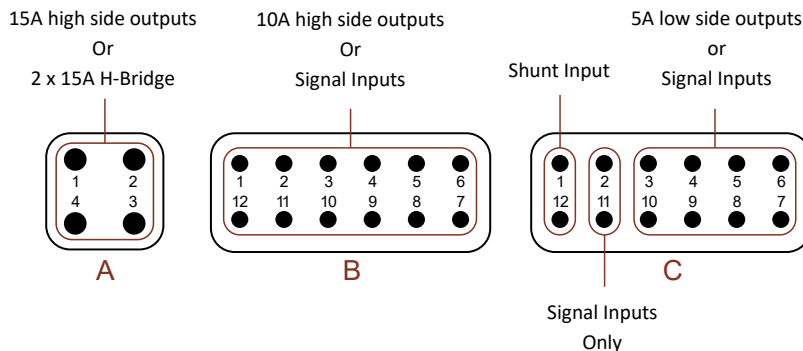
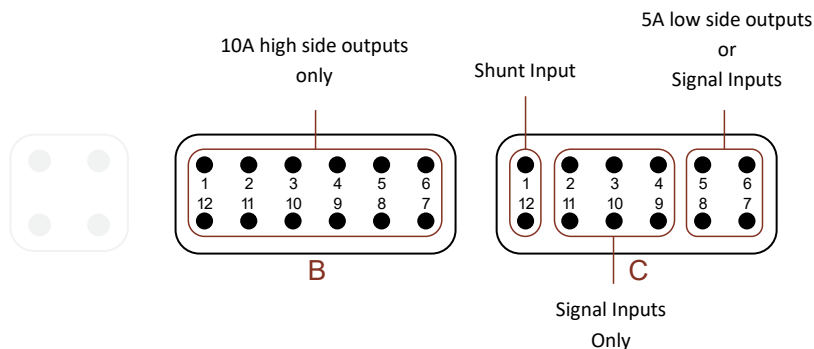

Figure 7. Control X PLUS Channel Specifications
Figure 8. Control X Channel Specifications
Make a list of all inputs and outputs to be wired to the Control X and take note of the output channel ratings and functions as shown in Figure 7 and Figure 8. Assign each input and output to a channel on the Control X ensuring loads are wired to the appropriate channel for the functionality required.
1. Connector C has a number of different inputs and outputs available. Check tables (figure 7 & 8) above to ensure your circuit channel is adequate for the function required. Referring to the circuit list, strip and crimp the input/output cables with the appropriate Deutsch contact and crimp tool.